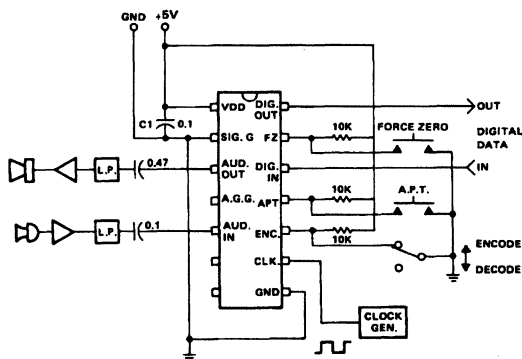

FIGURE 6. CVSD HOOKUP FOR EVALUATION
Figure 6 illustrates a simple evaluation breadboard circuit for the HC-55564. A single device is sufficient to evaluate sound quality, etc. since, when encoding, the feedback signal at pin 3 is identical to the decoded signal from a receiver. The following are some pointers for using the devices:
- 1) Power supply decoupling is essential with the capacitor (C1 in Figure 6) located close to the I.C.